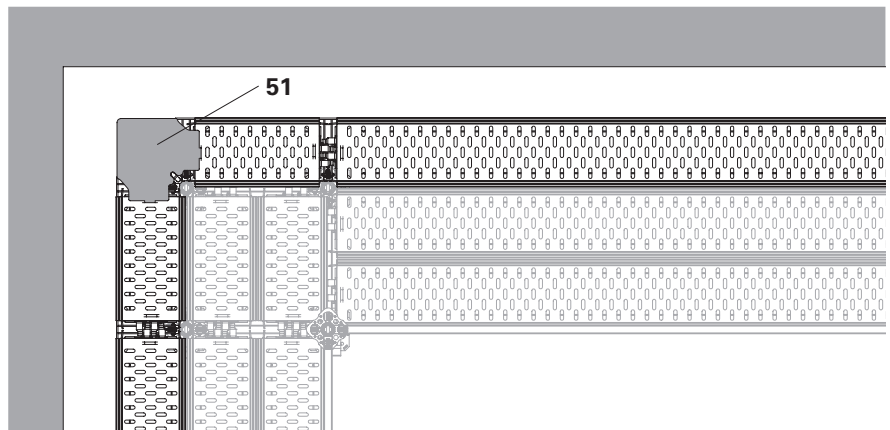

Fig. A7.06
- The deck is now fixed in position (Fig. A7.06 + A7.06c)